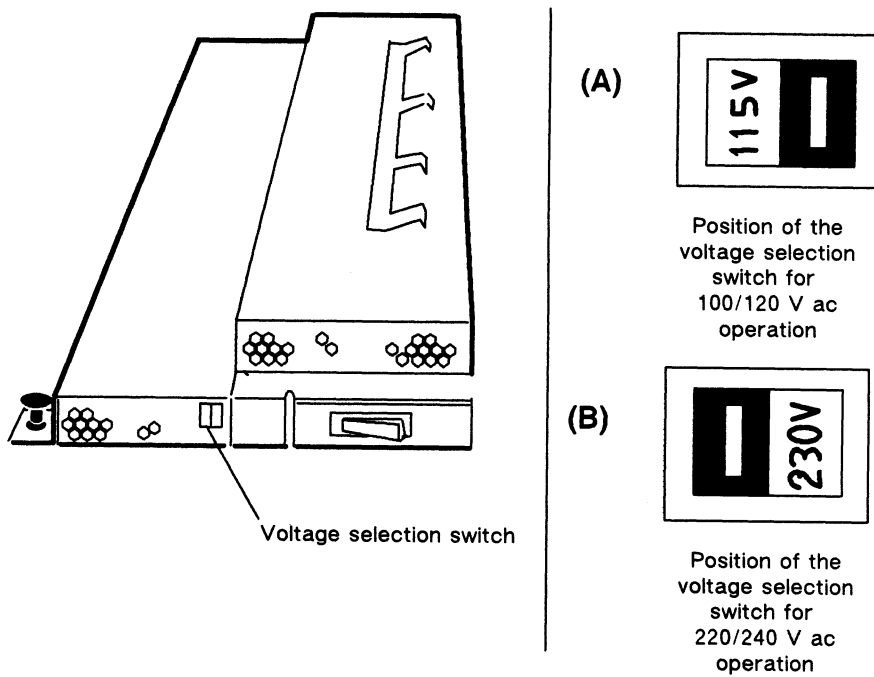

Figure 2-3 Verifying the Voltage Selection Switch Setting
4. Ensure that the computer unit is set to the proper ac power voltage for your site. If the installation site has 100 V ac or 120 V ac line voltage, make sure the switch is in the 115 V position as shown in Figure 2-3 (A). Most sites in the United States and Canada have 120 V ac power.
If the site has 220 V ac or 240 V ac line voltage, make sure the switch is in the 230 V position as shown in Figure 2-3 (B).